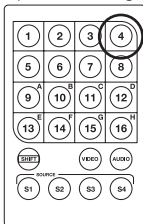

Figure 5-4. Monitor 4 button on remote control.
2. Press the desired port, for example, “4.” See Figure 5-4.